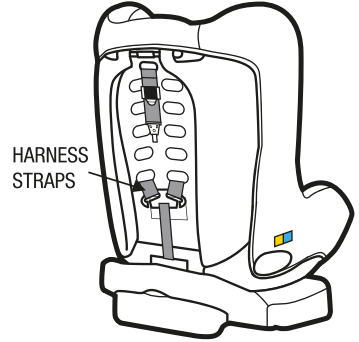

Figure 1
**Step 2:** Remove each shoulder harness through the gates in the spreader plate (see Figure 1 & 4).